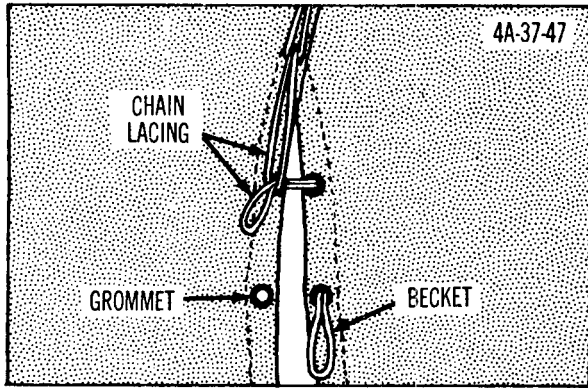

Figure 57. Becket lacing and grommets.
- (c) Pass arch pipe rope of liner end section over top purlin of frame end section, pull down on rope, and raise liner end section to top of tent (1).
- (d) Secure center arch pipe of liner end section to top purlin of frame end section with S-hook and chain assemblies (2). Secure remaining arch pipes to frame purlins on each side of tent in a similar manner.
- (e) Secure tie tapes of liner end walls to D-rings of tent end walls (3).
- (f) Close vehicle door, and secure liner vehicle door to tent vehicle door with tie tapes and D-rings (4).
- (h) Fasten liner sections together with beackets of one section laced through grommets of adjacent section, and chain-lace the beackets (fig. 57). Begin lacing at bottom of one side of liner and continue until bottom of other side is reached. Secure last lacing with a knot.